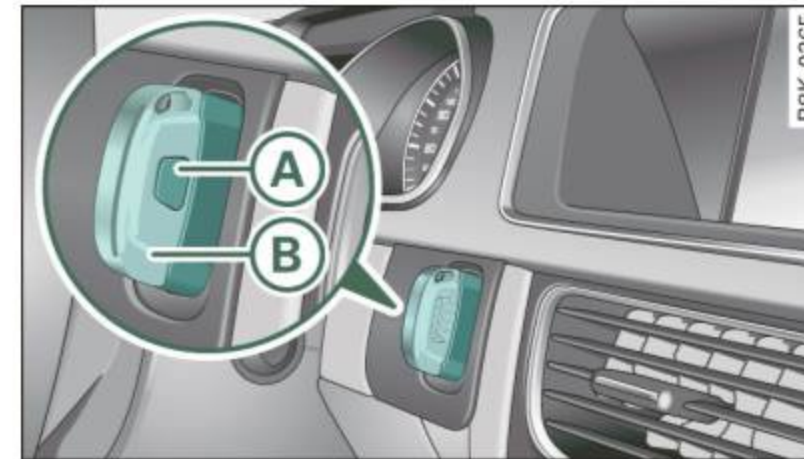

Fig. 32 Ignition switch with ignition key
- Press the release button **(A)** ⇒ fig. 32 for example with a ball point pen and pull the mechanical key **(B)** out of the master key.